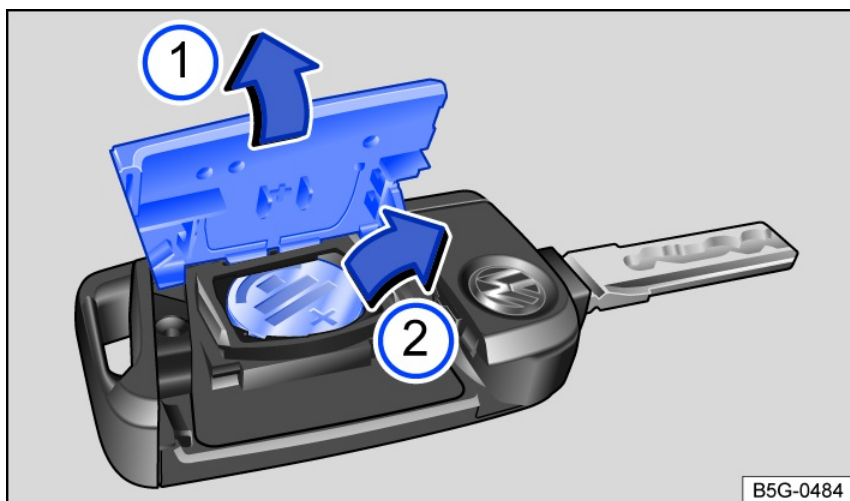

Fig. 51 Vehicle key: Replacing the button cell battery.
Key for *fig. 51*:
- Lever off the cover *fig. 51* ① → !.
- Lift the button cell battery out of the battery compartment *fig. 51* ②.
- Press the cover onto the housing *fig. 51* ①.